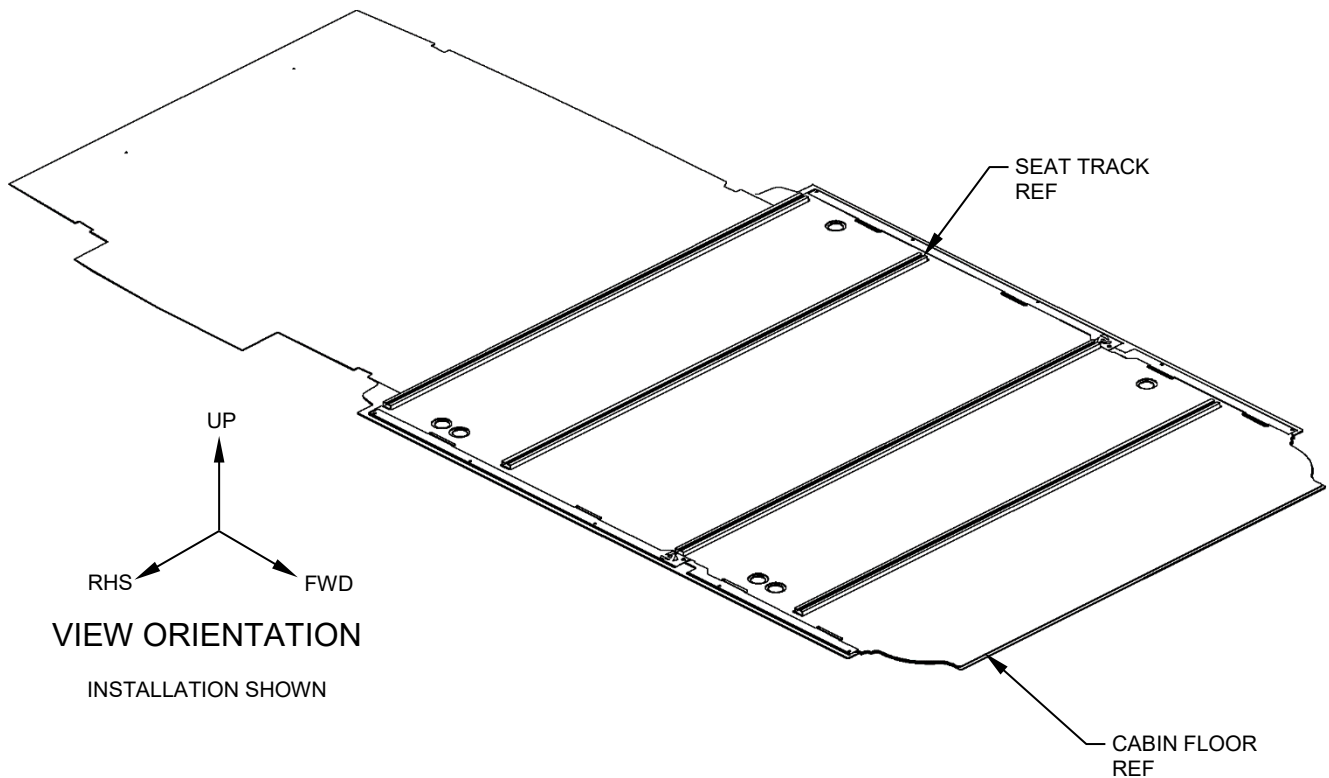

Figure 1
1. Gain access to the aircraft and make ready for maintenance. Temporarily remove all passenger seats. Reference Figure 1.
2. Remove all of the fasteners along the LHS and RHS door sills. Retain all fasteners. Reference Figures 1 & 2.